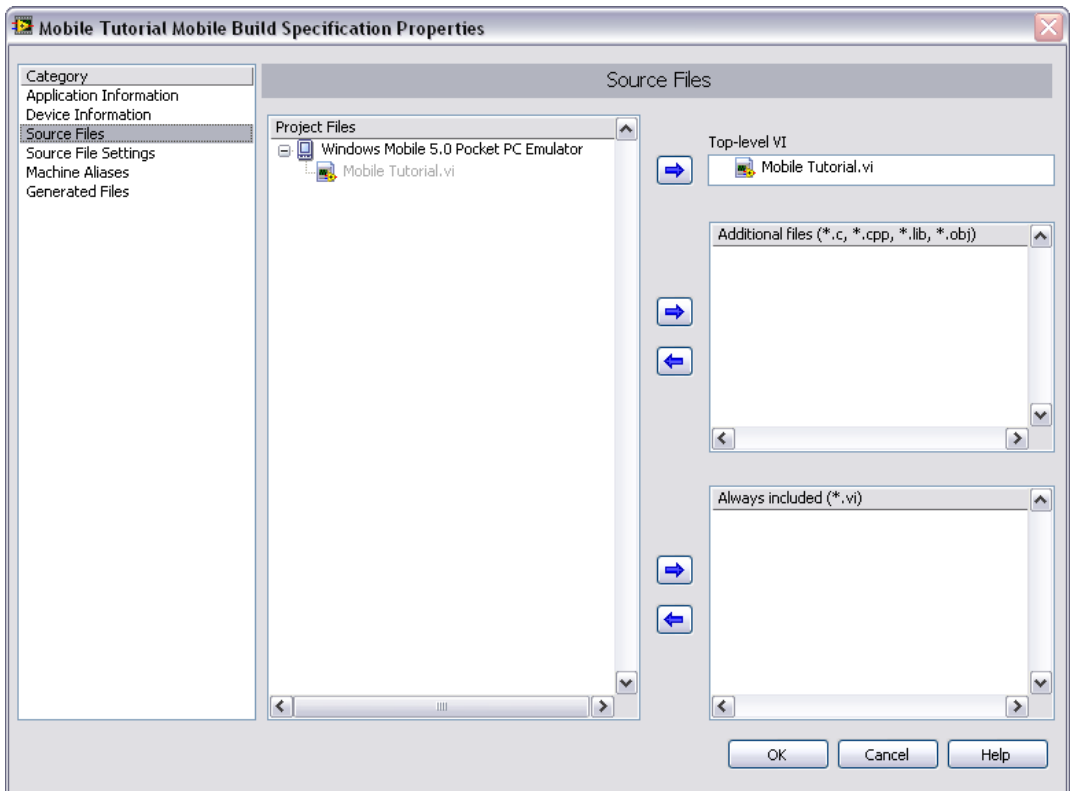

Figure 5. Selecting the Source Files
4. Select the **Source Files** category to select the source files to include when you build the VI into an application. When you use the Mobile Project Wizard to create a build specification, LabVIEW automatically uses the VI you import as the top-level VI. When you create build specifications outside of the wizard, you must manually select the top-level VI and click the blue arrow button to move the VI to the **Top-level VI** text box as shown in Figure 5. Mobile applications can have only one top-level VI.